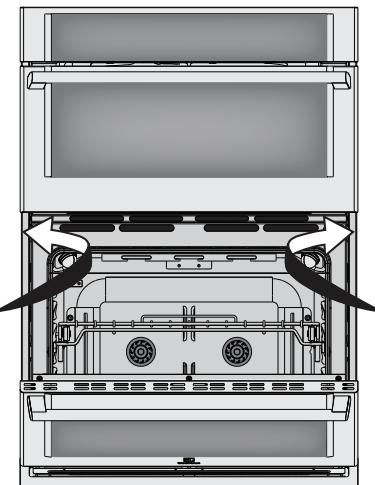

Figure 7: Anti-tip screw locations
- A. The mounting holes in the side trims may be used as a template to locate the appliance mounting screw holes (see Figure 7).